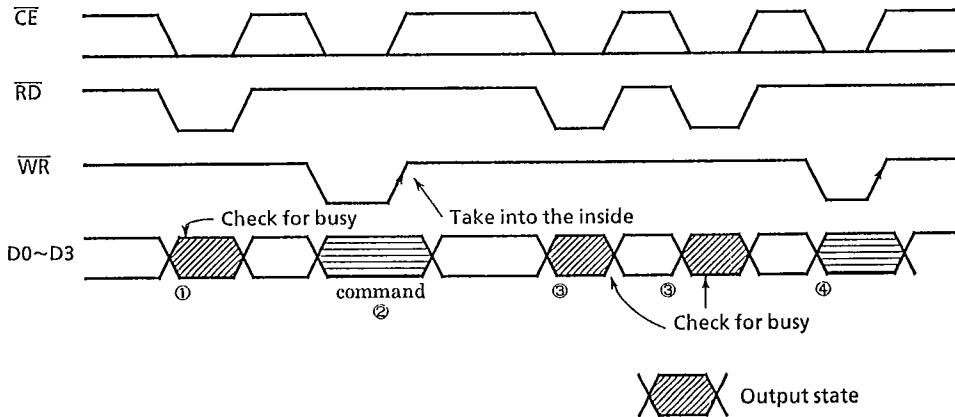

Fig.5.11 How to write command
As shown in Fig. 5.11, ①using \overline{RD} pulse, read status from TC8834 and check BUSY flag ②If not busy state, after setting up command in D0~D3, write a command using \overline{WR} pulse. In case of such 3 nibble commands as LABEL, ③after rechecking BUSY flag by \overline{RD} pulse, ④write the 2'nd and 3'rd nibbles.